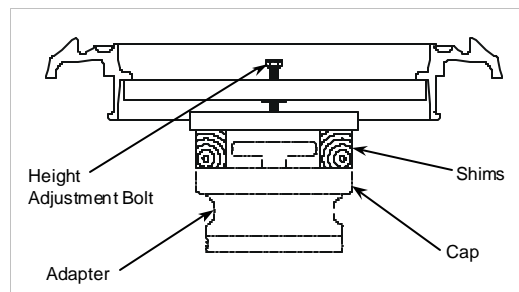
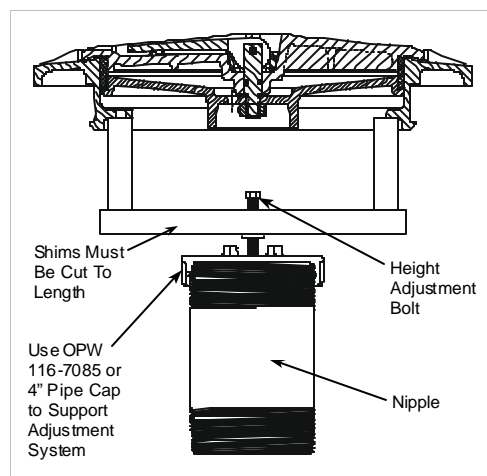

Figure 3 – Standard Cover Model Height Adjustment
Figure 4 – Sealable Cover Model Height Adjustment
Step 8: (See Figure 3 & 4)
Install adjusting system beneath tabs on mounting ring. See Figure 3 for standard cover models. See Figure 4 for sealable cover models. Add shims as needed and adjust with screw. (Shims must be cut to size for sealable cover models.) The height can be increased up to 1" (2.5cm).